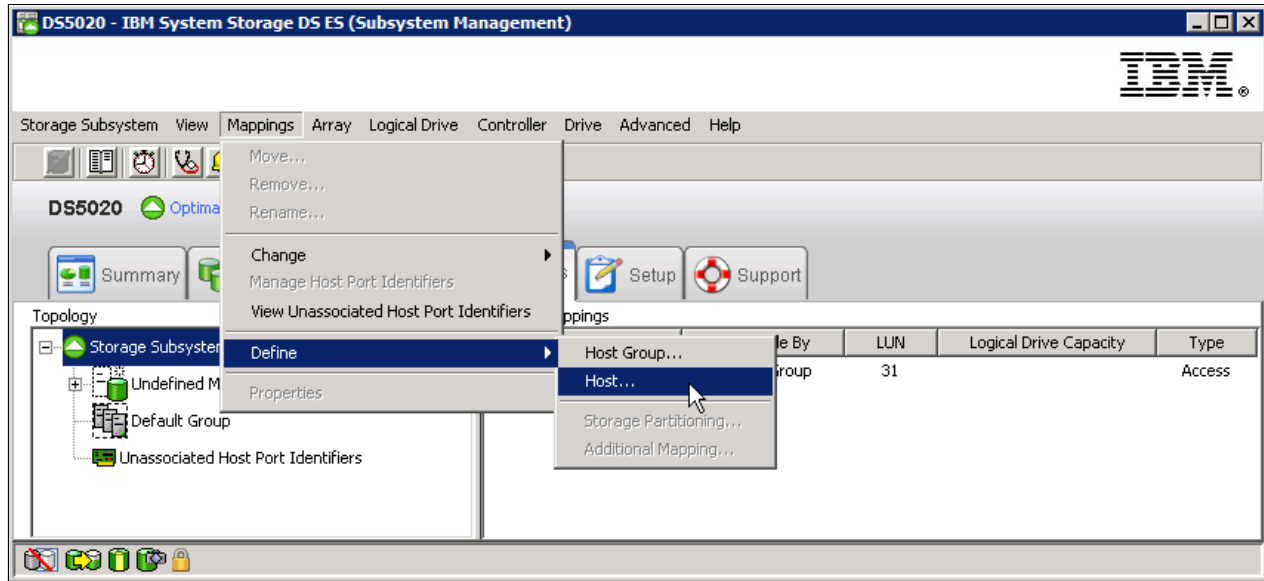

Figure 3-67 Selecting Define Host
1. Right-click your storage subsystem and select **Define** → **Host**, as shown in Figure 3-67. Even with no host group created, it is easier to create the hosts first and then the host groups.